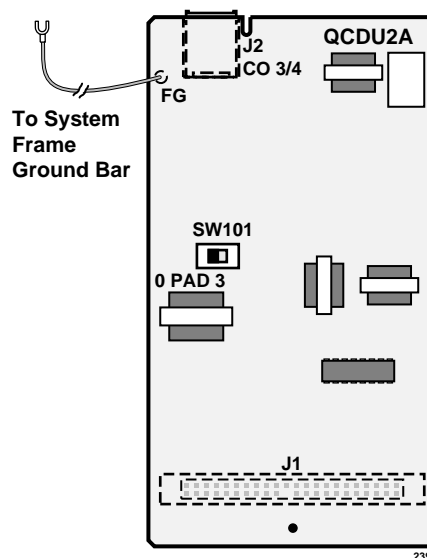

Figure 1-10 QCDU2 Printed Circuit Board
3. Slide QCDU2's front edge and FG wire under the System Frame Ground Bar; align and insert the QCDU2 connector J1 into the motherboard connector (J9 for CO3 first, J10 for CO4 second). (See Figure 1-10)